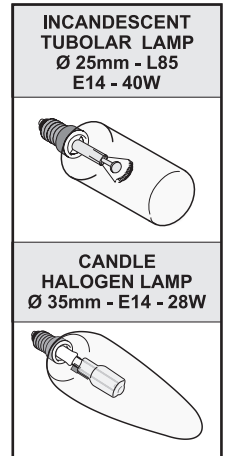

Fig.8
• Replacing the halogen/incandescent lamps (Fig.8):